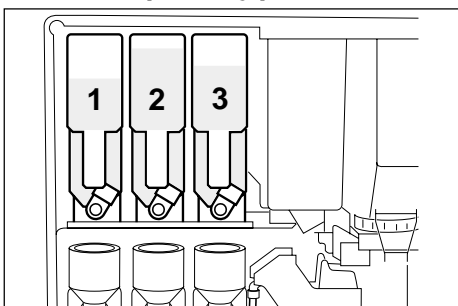

Fig. 13
- Fill the cabinet water tank (except for models supplied with direct water line connection), the bean hopper (1) and instant product bins (2), making sure the latter do not exceed the 2/3 of their max. capacity; replace them properly (Pos. 1 tea or other instant products, Pos. 2 chocolate or other instant products, Pos. 3 milk) (Fig. 13).